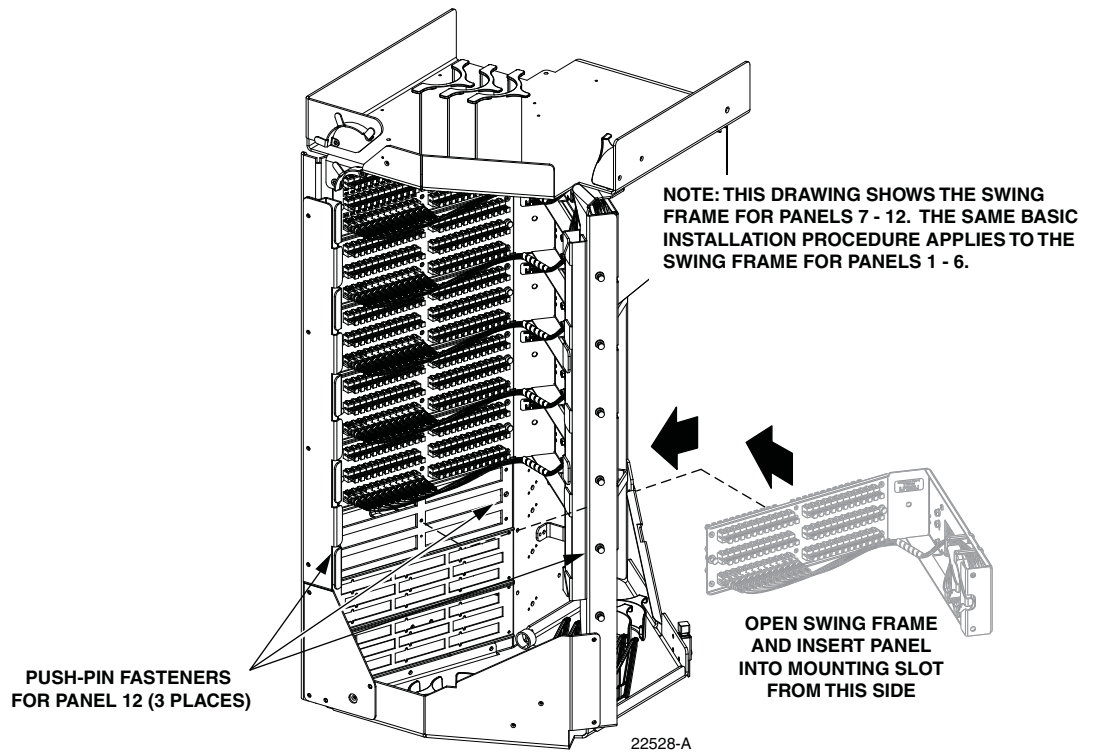

Figure 19. Inserting Connector Panel into Swing Frame Mounting Slot - Typical
13. Open swing frame and insert the connector panel into the selected mounting slot from the side as shown in Figure 19. Use the three plastic push pins provided to secure the connector panel to the rear side of the swing frame.